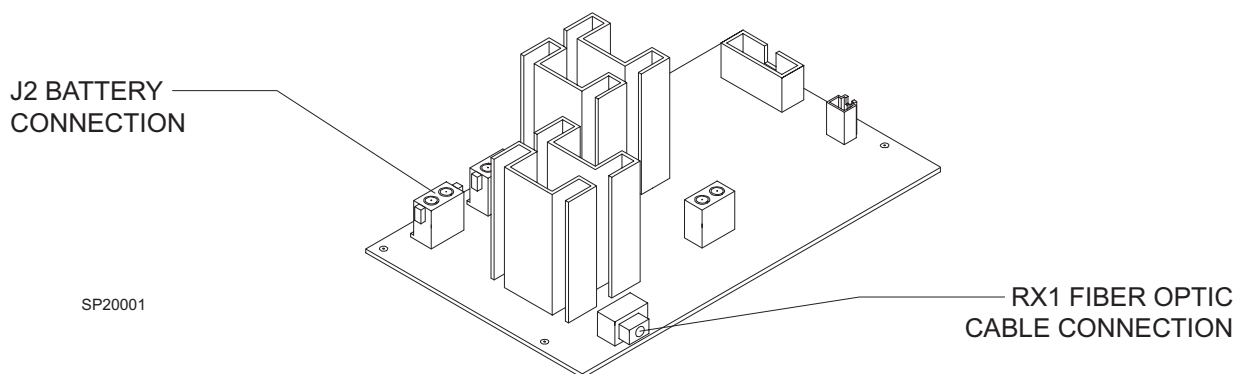
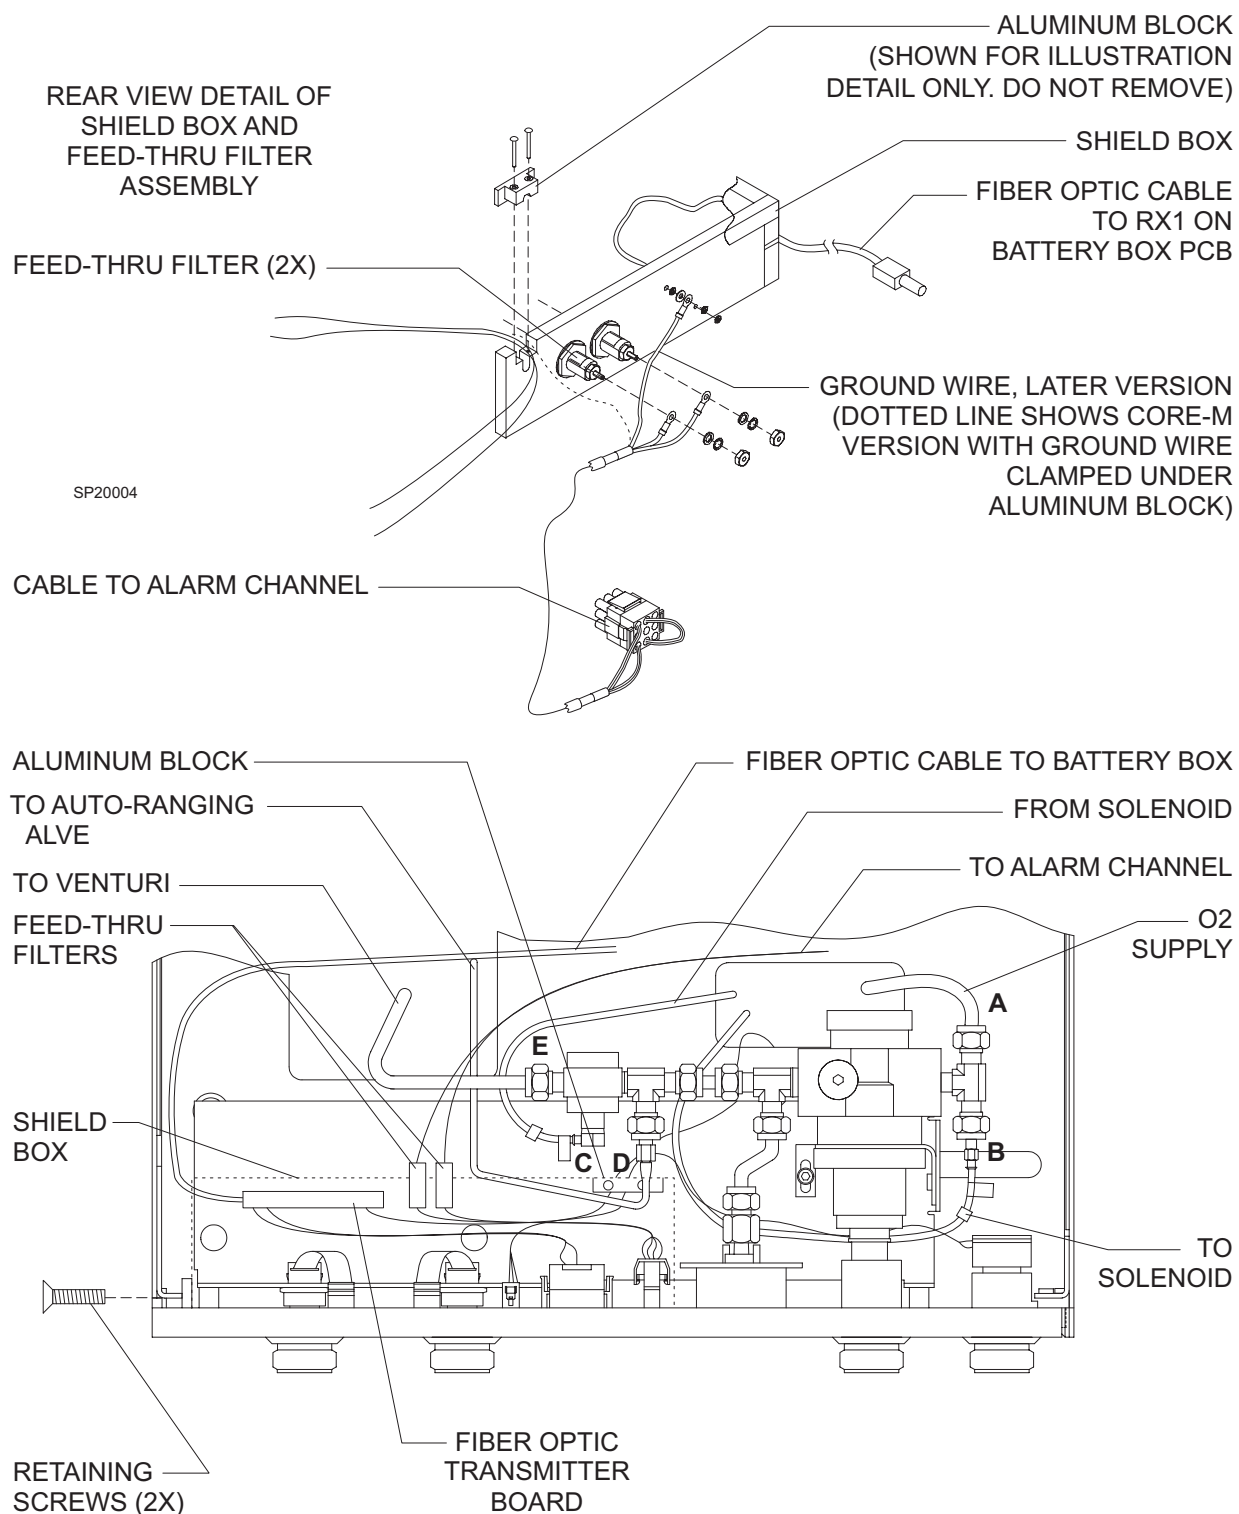

FIGURE 1. Battery Box PCB
FIGURE 4. AV2+ (MRI) Bezel Assembly Connections (Core-M)
5. Disconnect the battery cable from J2 on the battery box PCB. See Figure 1.
| <p>15. Disconnect the large and small diameter pneumatic tubing at locations A, B, C, D, and E as shown in Figure 4.</p> <p>16. Disconnect the red and white wires from the feed-thru filters on the rear bulkhead of the shield box. Note the arrangement of these wires so they can be connected to the replacement assembly in the same manner.</p> <p>17. Disconnect the black ground wire from the stud on the shield box bulkhead.</p> | <p>18. Disconnect the fiber optic cable from RX1 on the battery box PCB. See Figure 1.</p> <p>19. Feed the fiber optic cable up from the battery box to the AV2+ controller. Carefully coil the fiber optic cable and secure it to the AV2+ controller.</p> |